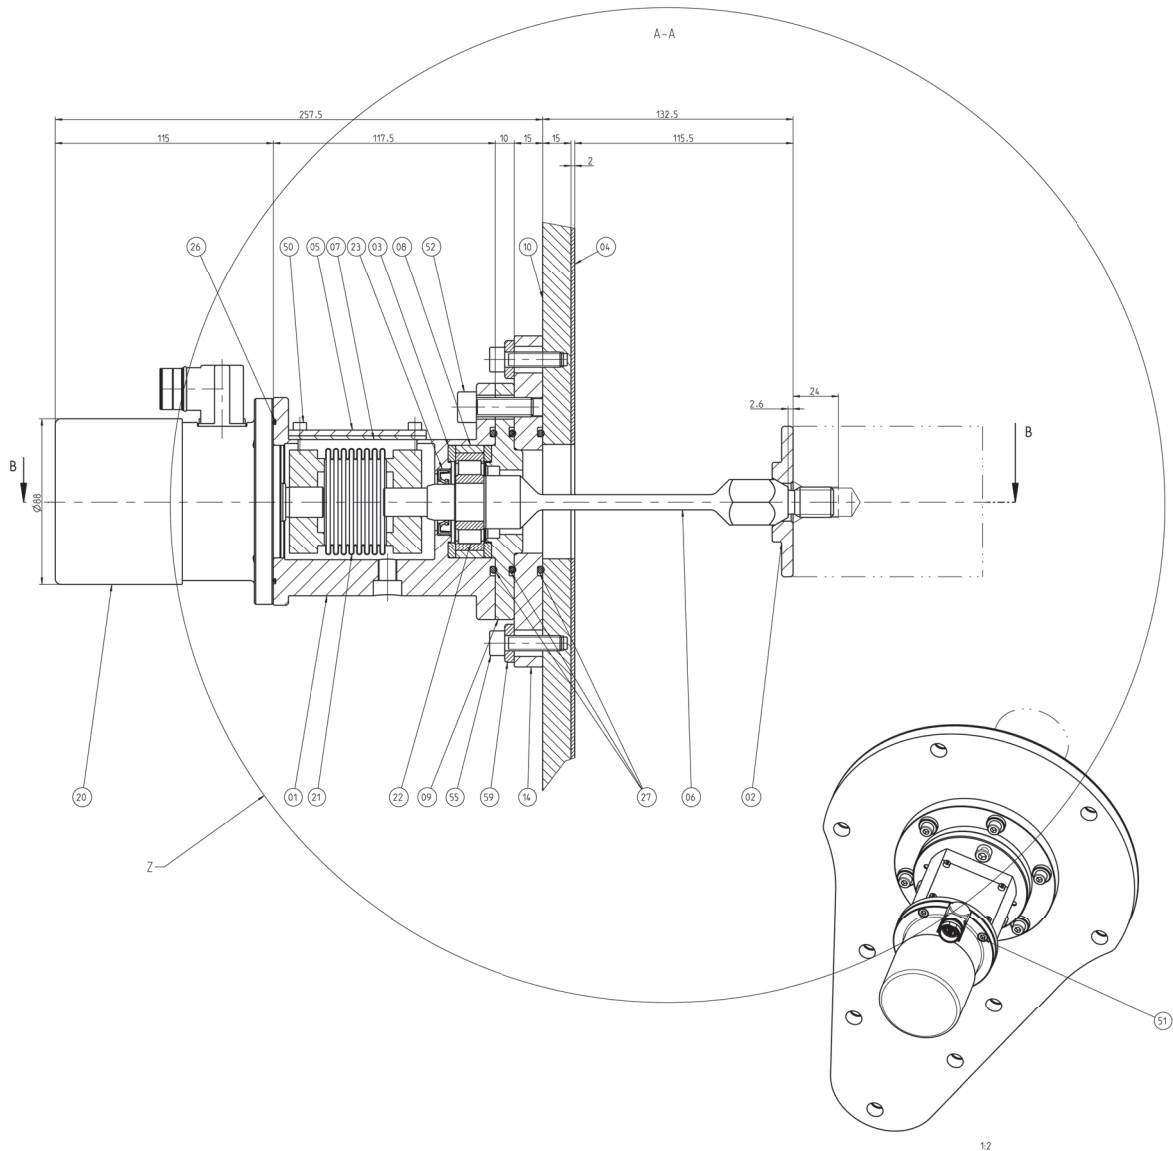

Fig. 4.1 Assembly drawing shows an example of the adaptation with all the required individual parts
Table 4.1 Mechanical parts, shown in Fig. 4.1 and 4.2 on next pages
- the intermediate housing must now be assembled if not delivered preassembled. The sealing rings, the isolation washers, the NU304 bearing and the plate must be installed (see assembly drawing Fig. 4.1) but not the cover.